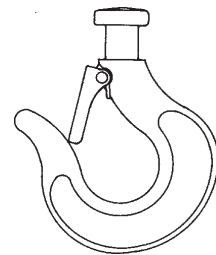

Fig. 8
- Do not remove the safety latch from the suspension or load hooks (fig. 8).